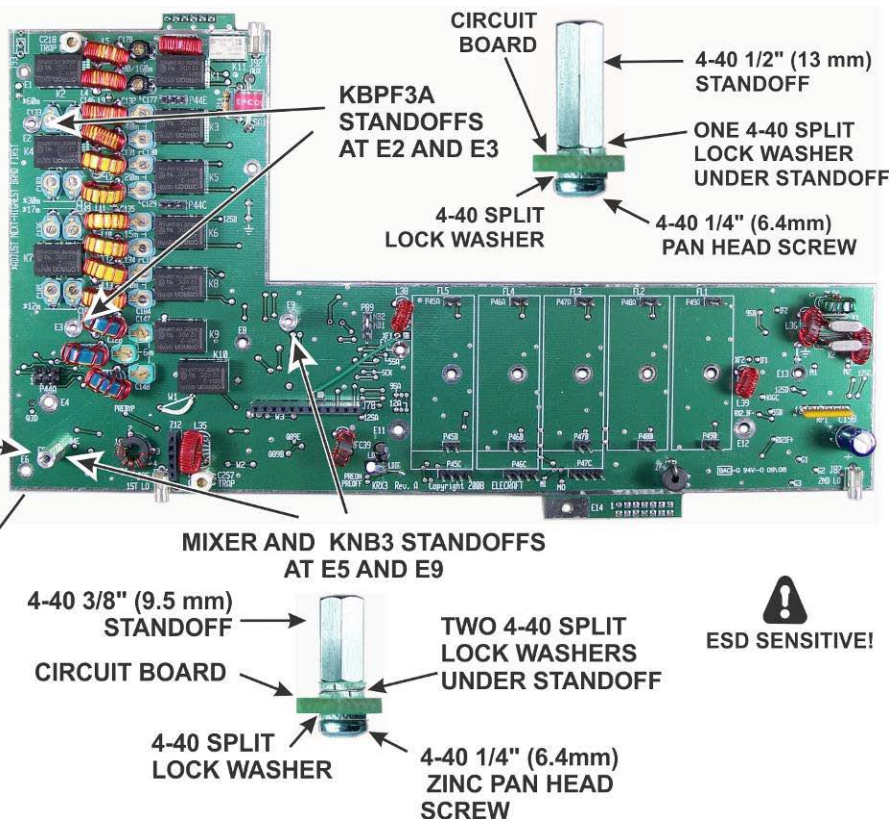
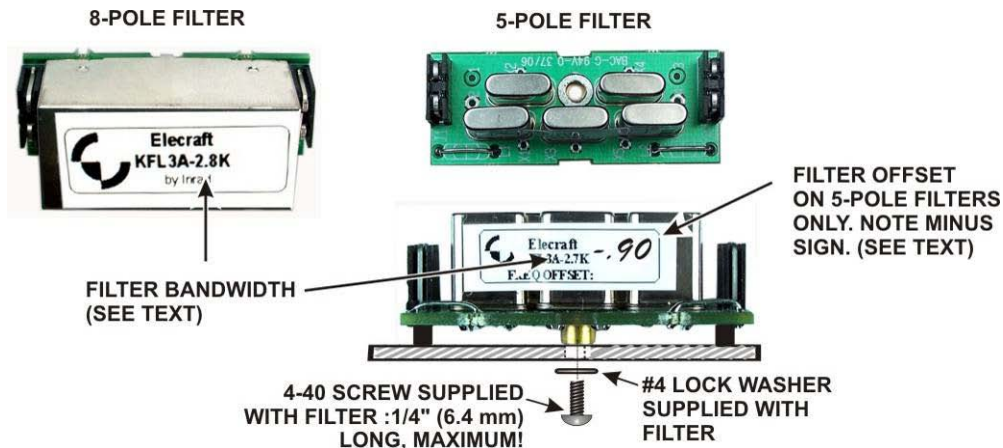
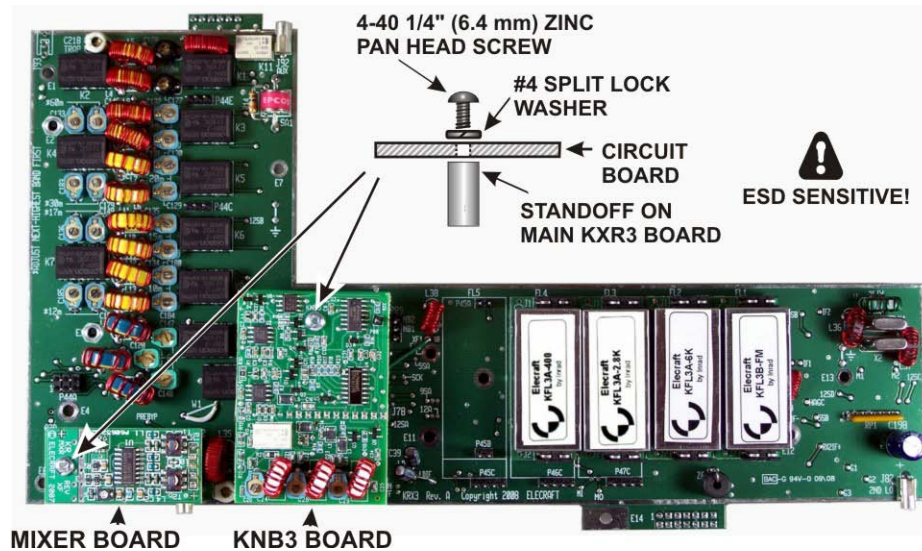

Figure 37. Installing Standoffs on the KRX3A Main PC Board.
Figure 38. Installing Crystal I.F. Filters.
Figure 39, Main KRX3A Board Ready for Installation.
Install four standoffs on the KRX3A main circuit board as shown in Figure 37. Be careful to use the correct length standoff and the exact combination of washers shown in each location, and carefully follow the instructions for installing the standoff at E5 to avoid damaging the board.
Check to ensure that you installed all four standoffs exactly as shown in Figure 37 above.
Locate the crystal I.F. filters. Two types of filters are available: standard 5-pole filters and optional 8-pole filters (see Figure 38). One standard 5-pole 2.7 kHz filter is supplied. If you have elected to equip your K3S or K3 with the optional 8-pole 2.8 kHz filter, it has been supplied instead of the 2.7 kHz filter. If you have purchased additional filters, they may be installed now as well. If you plan to add filters later, spaces may be left for them. For example, if you plan to add the FM or a 6 kHz AM filter later, you can leave spaces FL1 and FL2 open for them and install the 2.8 kHz filter in position FL3. The filters are not hard to move about later, so if you aren't sure, install the widest at FL1, the next widest at FL2 and so on.
Install the filters on the KRX3A board as shown in Figure 38. Use the screw and lock washer supplied with each filter. Refer to the list of filters you created in Table 1 to ensure each filter is installed in the proper position. Four of a possible five filters are shown installed on the KRX3A board in Figure 39.
□ Mount the Mixer and KNB3 boards on the main KRX3A board as shown in Figure 39. Be certain the connector on each board is properly aligned and mated with the connector on the main KRX3A board. The boards should be parallel to the KRX3A board. If they are tilted, check to ensure the correct number of washers were installed under the standoffs and that you used the correct standoffs as shown in Figure 37.